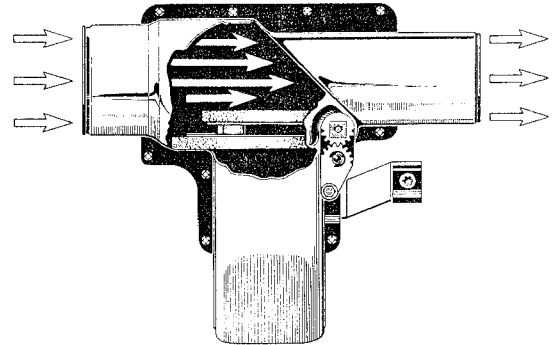

Fig. 17
4. Fasten bowden control to bell crank by inserting it in the screw hole. The ventilation flaps must be in the position shown in Fig. 17.